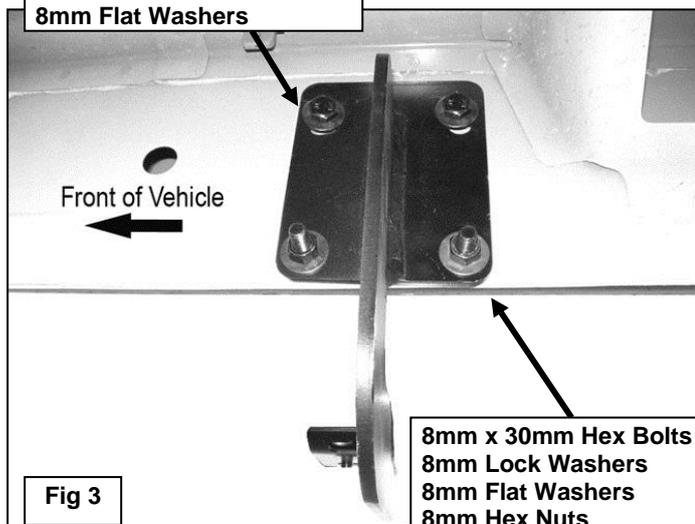

Fig 3
3. Partially attach passenger side Mounting Brackets to the previously installed Clip Nuts using the included (1 or 2) 8mm x 30mm Hex Bolts, (1 or 2) 8mm Lock Washers, and (1 or 2) 8mm Flat Washers, (Figure 3). NOTE: Cradles on the Mounting Brackets should face the front of the vehicle.
4. Attach the (2) bottom holes in the Mounting Bracket to the (2) holes in the pinch weld using the included (2) 8mm x 30mm Hex Bolts, (2) 8mm Lock Washers, (4) 8mm Flat Washers and (2) 8mm Hex Nuts, (Figure 3). Do not tighten hardware at this time.